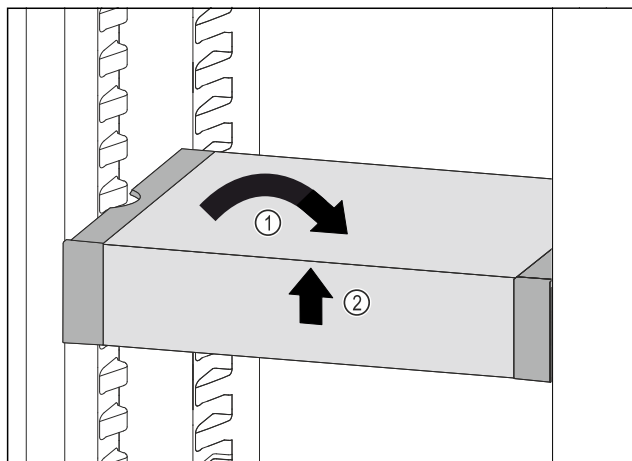

Fig. 72
- Set VarioSafe straight. Fig. 72 (1)
- Lift VarioSafe at the front. Fig. 72 (2)